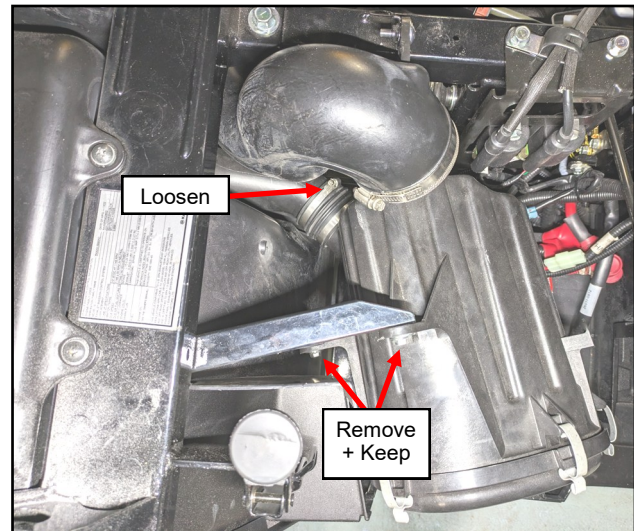

Fig. 2.9 (Remove Engine Air Filter Assembly)
- 2.9 Remove and set aside engine air filter assembly by loosening the lower clamp and removing (2) mounting screws found on the vehicle's frame per fig. 2.9.